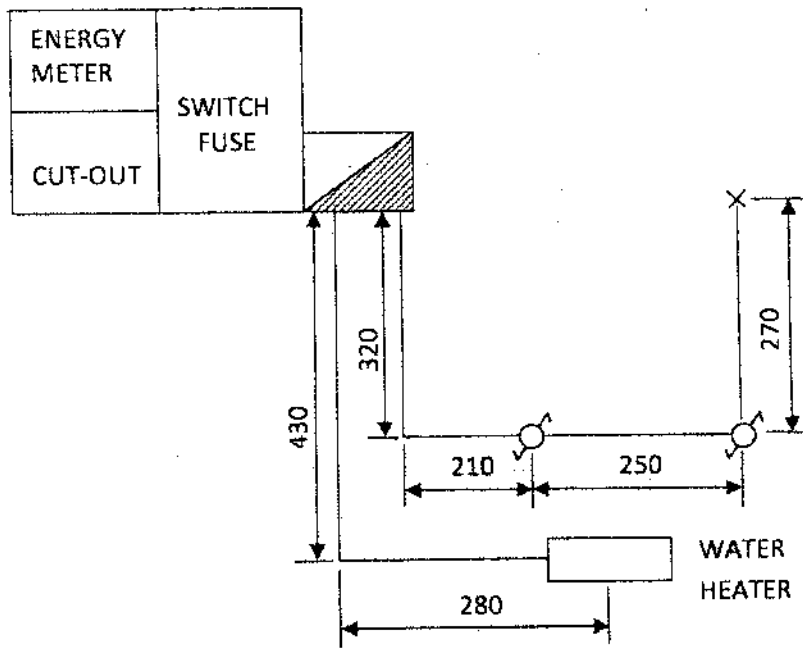

Figure 1
1. Figure 1 shows the layout of control gear equipment and two final circuits. The control gear and consumer unit are pre-installed.